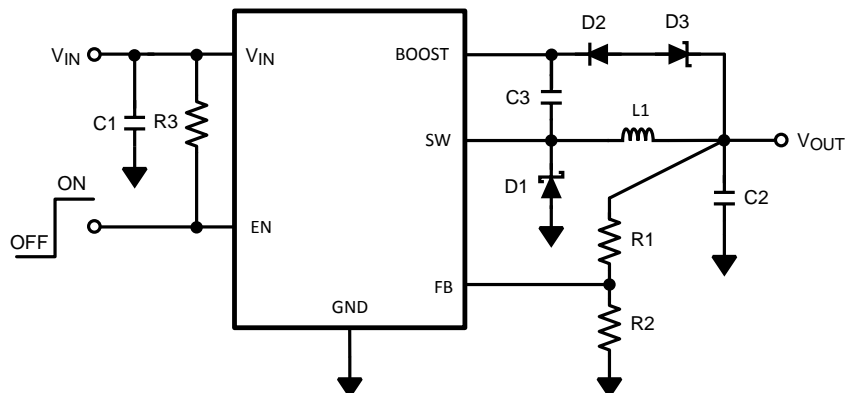

**Figure 27. LM2736X (1.6MHz)**
**Table 4. Bill of Materials for Figure 27**